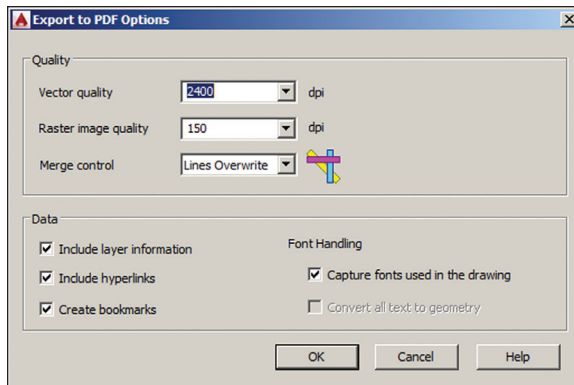

FIGURE 14.25 Export To PDF options
2. Change Vector Quality to 2400 dpi and reduce Raster Image Quality to 150 dpi (see Figure 14.25). Click OK.